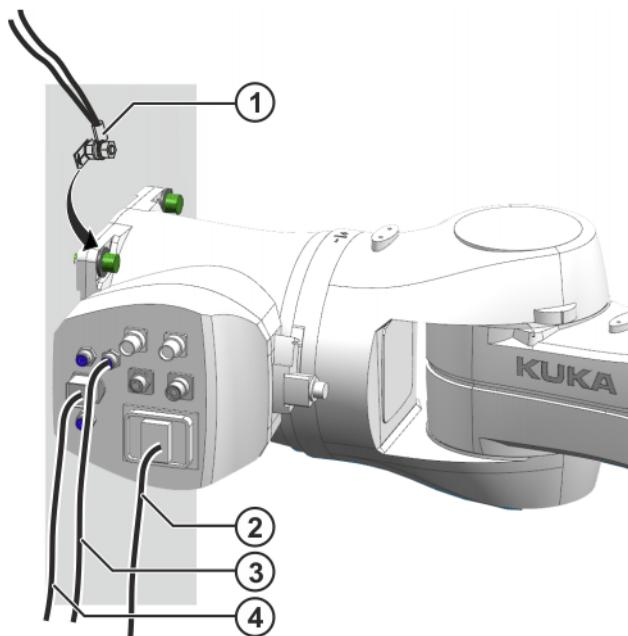

Fig. 8-8: Connecting the cables
21. Connect motor cable X30 and data cable X31 (>>> Fig. 8-8).